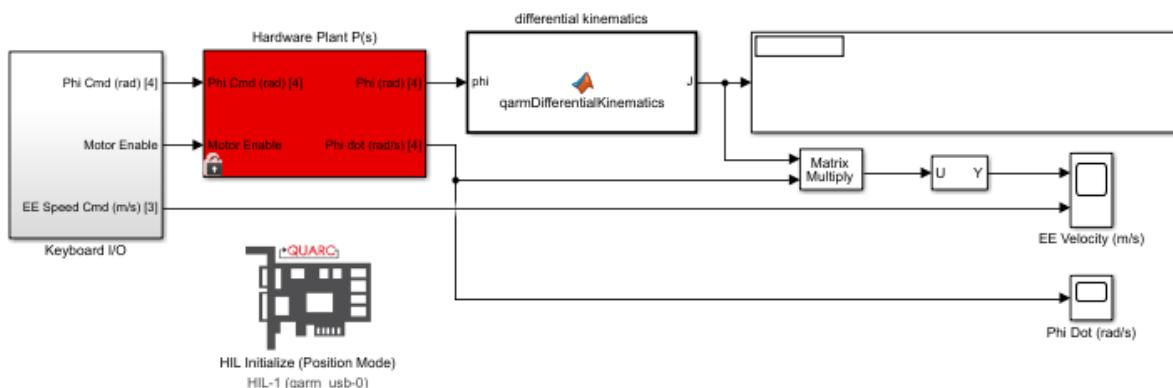

Figure 1 - Jacobian Simulink Model
9. Analyze the cases one at a time, while checking the state machine diagram Figure 1 in the Tool Manipulation Concept Review. If start is true, you want to transition to State 2, and if not, you want to remain in state 1. Complete lines 22 and 24 to reflect this transition.